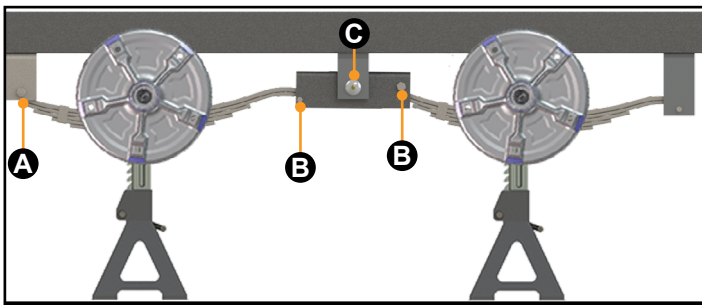

Fig.10
7. Using a floor jack, lift the axles slightly and place the additional properly-rated jack stands under the axles (**Fig.10**) so that the bolts can be driven out with a hammer.